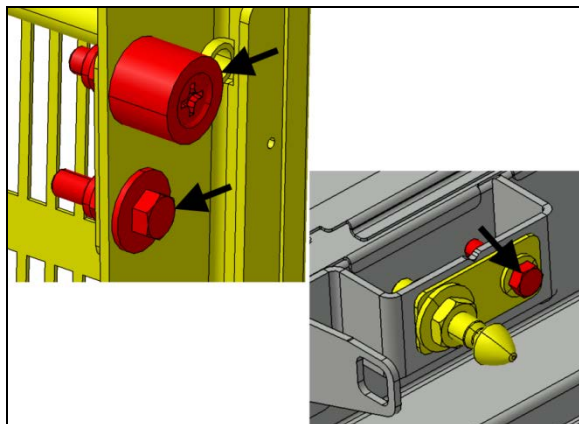

FIGURE 56
13. Open the door and perform a final tightening to the items indicated with arrows (FIGURE 56).